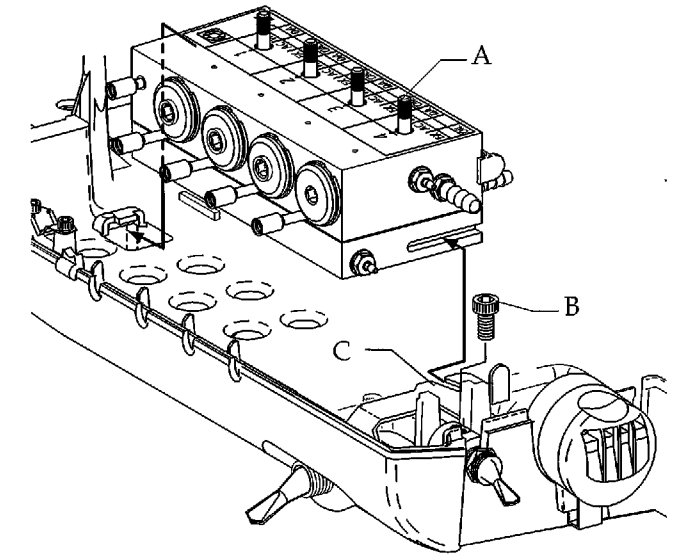

Figure 91. Release the control block by unscrewing the mounting screw. (A) control block, (B) mounting screw, (C) guide plate
2. Open the delivery system cover, and unscrew the mounting screw that secures the guide plate as shown in Figure 91.